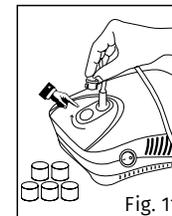

Fig. 11
3. Re-insert the filter cap in its position (Figure 11).